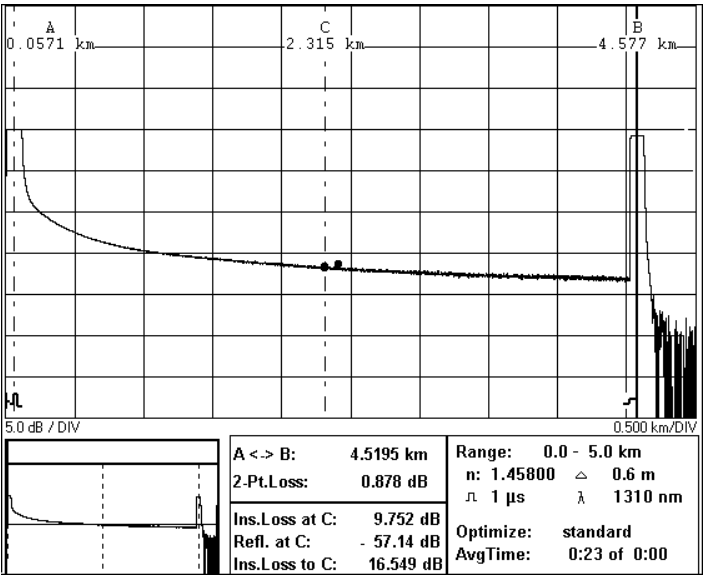

Figure D-17
- 12** Check the endreflection. See Figure D-17. Position marker A in the middle of the frontreflection.